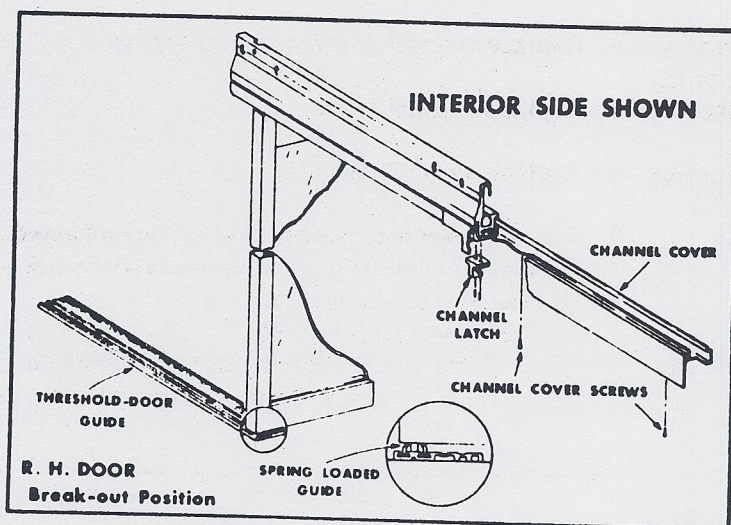

FIGURE 23
- a. Break-out door and remove channel latch and channel cover screws. See Fig. 23.
- b. Slide channel cover forward and out of hanger assembly. See Fig. 23.
- a. Break-Out door and remove channel latch and channel cover screws. See Figure 23.